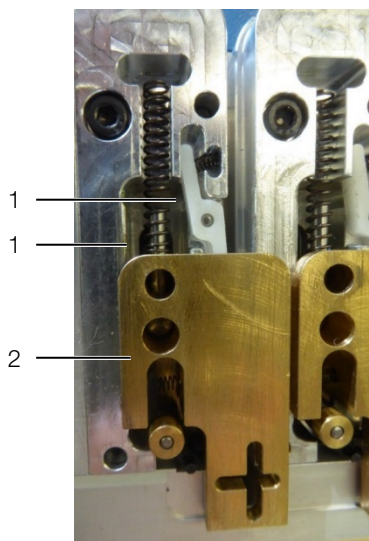

Fig. 23: Transport unit
- Apply very little oil to the aluminum on both sides (fig. 23, item 1) of the guide groove.
- Move up and down with the brass slide (fig. 23, item 2) to distribute the oil.